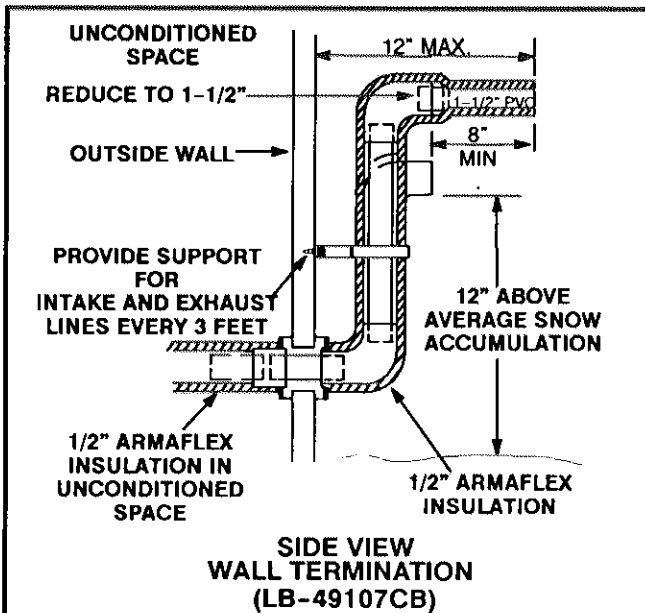

FIGURE 9
- 8- If intake and exhaust piping must be run up a side wall to position above snow accumulation or other obstructions, refer to figures 9 and 10 for proper piping method. Piping must be supported every 3 ft. as shown. When exhaust and intake piping must be run up an outside wall, the exhaust piping is reduced to 1-1/2 in. after the final elbow.